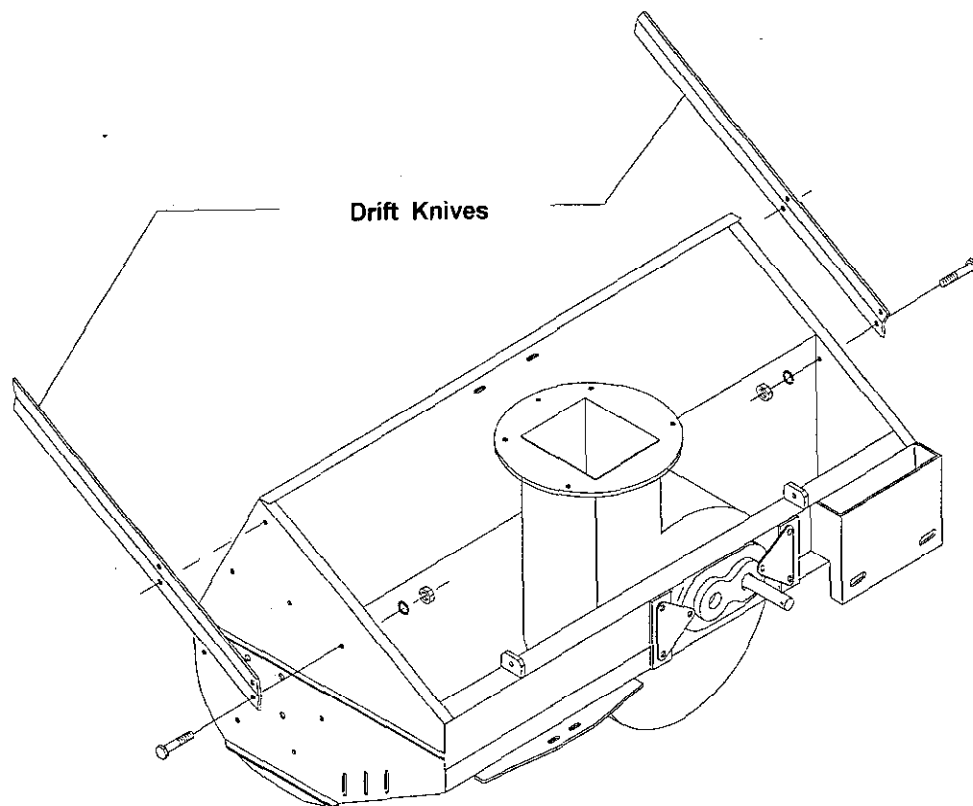

Figure 1
ATTACHING OPTIONAL DRIFT KNIVES (Fig. 1)
1. Fasten the drift knives to each side of the Snow blower as shown in Fig. 1 using the 3/8 x 1" bolts.
ATTACH SNOW BLOWER TO 300 SERIES GROUNDMASTER (Fig. 1)